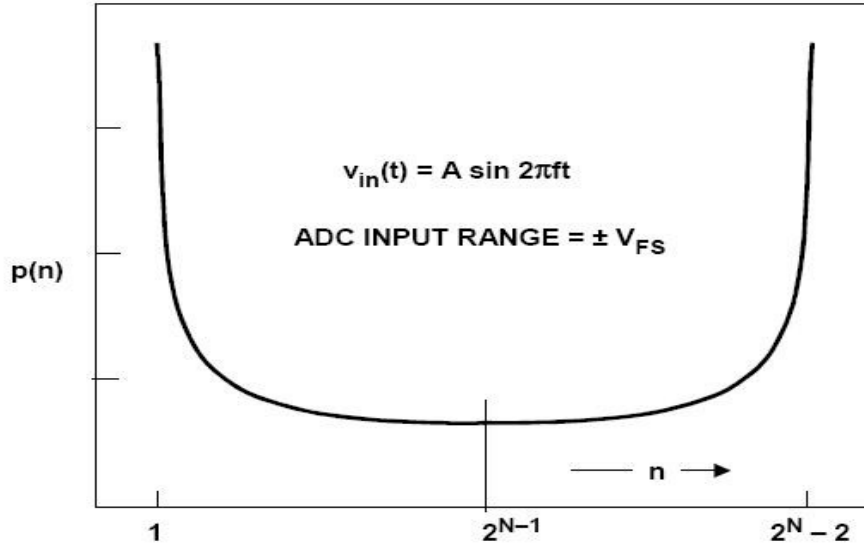

FIG 4-probability density function of a sine wave
The following algorithm is simple; a vector called “samples” is used in order to append in it the sine wave values that are generated by a small routine called “makesinewaveforunipolar(n,sampl_rate,fr,ph,amp,fullsr)” or “makesinewaveforbipolar(n,sampl_rate,fr,ph,amp,fullsr)”. To digitize the samples, there is another small routine called “adc_transferunipolar(v, fsr, bits)” or “adc_transferbipolar(v, fsr, bits,vfs)”. In that routine, vector “analog” has elements that are integer multiplications of LSB and vector “digital” contains the corresponding digital values. By appending the digitized values, that this routine produces, to a new vector, called “dig_samples”, a histogram is made in order to calculate the number of occurrences per bin, meaning the number of times that a specific digital value was observed. Another vector is also used, in which the theoretical values of the probability density function ($p(n)$ in formula (11)) per bin are appended. $p(n)$ should always look like the figure 4. Then, formulas (13) and (14) are used to calculate two vector of DNL and INL values. The algorithm also calculates the maximum deviation of the transfer function, which is another way to measure INL.